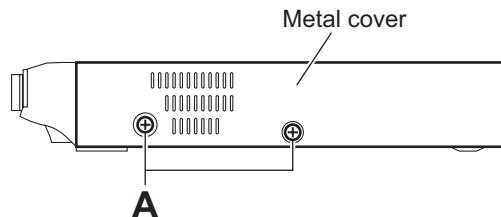

Fig.1
3.1.1 Removing the metal cover (See Figs.1 to 4)
- (1) From the both sides of the main body, remove the four screws **A** attaching the metal cover. (See Figs.1 and 2.)